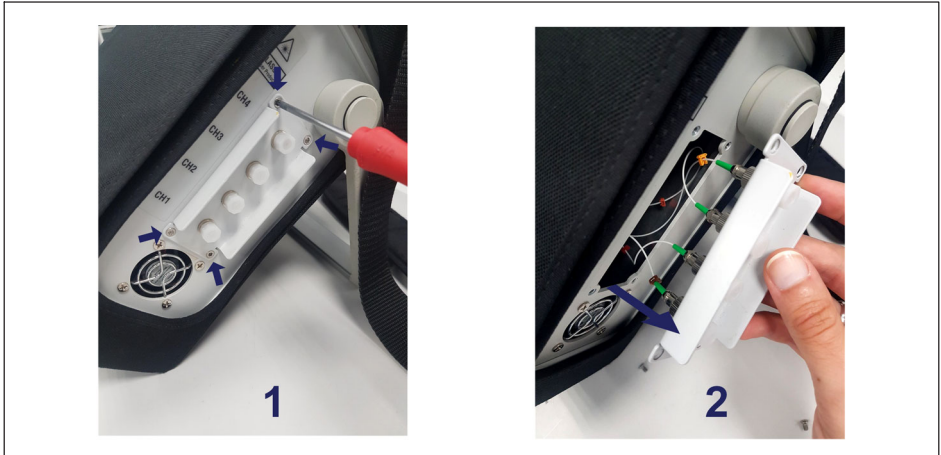

Fig. 3.17 Detachable connector panel
- ▶ To detach the panel, unscrew the four screws (number **1** in Fig. 3.17) and gently pull the panel out (number **2** in Fig. 3.17). Be aware that fragile optical cables might follow and these cannot be forced as they might break.